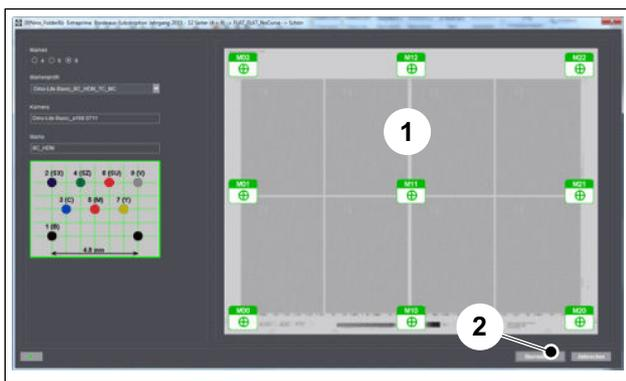

Fig. 20 Dialog box "Measurement editor"
15. When all measuring marks are green (Fig. 20/1), the measurement cycle is complete. Click *Apply* (Fig. 20/2) to save the measuring results and begin the calculation.